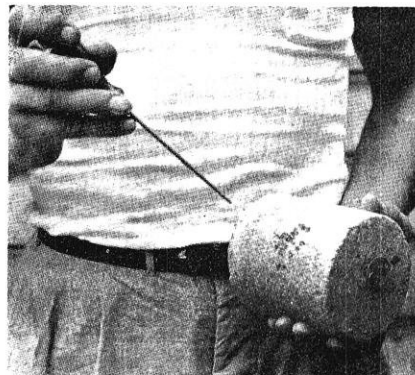

Fig. 3—The "Pick" Test
1. *"Pick" test*—This test consists of taking a specimen and jabbing it with a sharp-pointed instrument such as an ice pick, as illustrated in Figure 3. Specimens that are hardened satisfactorily and have a suitable cement content will resist the penetration of the pick. To pass this test, a specimen, which is not over seven days old, should be penetrated only about one-eighth to one-quarter of an inch when struck with considerable force.